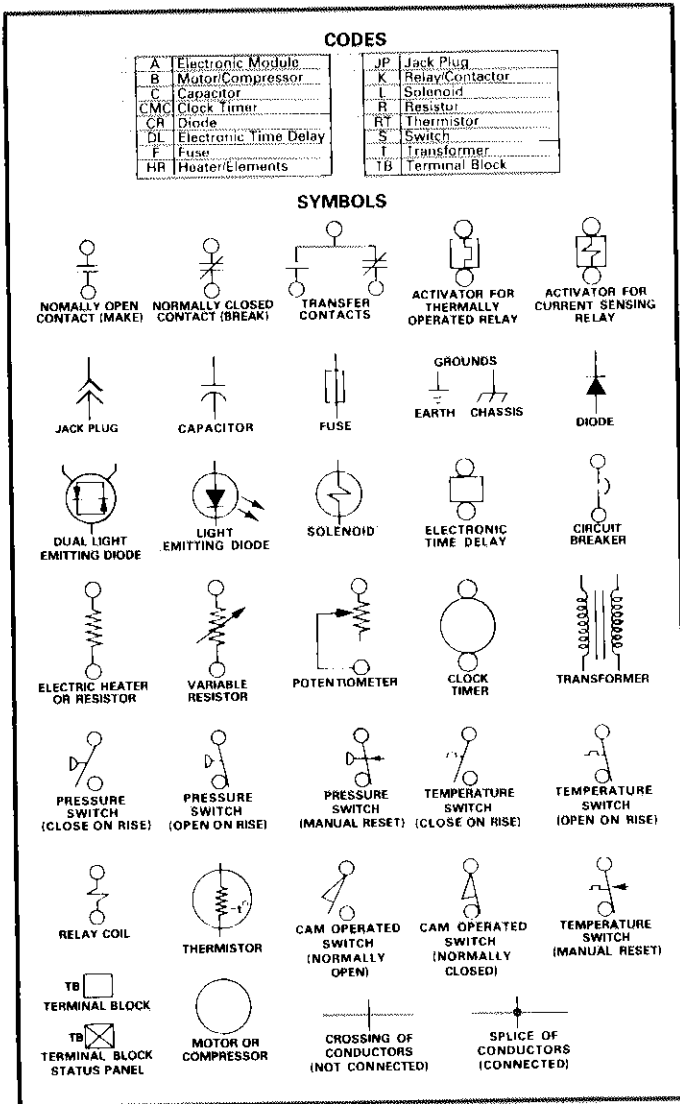

FIGURE 33
- 2 - The graphic symbols for components and code lettering conforms to the "IEEE Standard and American National Standard" of graphic symbols for electrical diagrams. All symbols and code lettering used are approved by the International Electrotechnical Commission (IEC). Refer to Figure 33 for code and symbol identification.